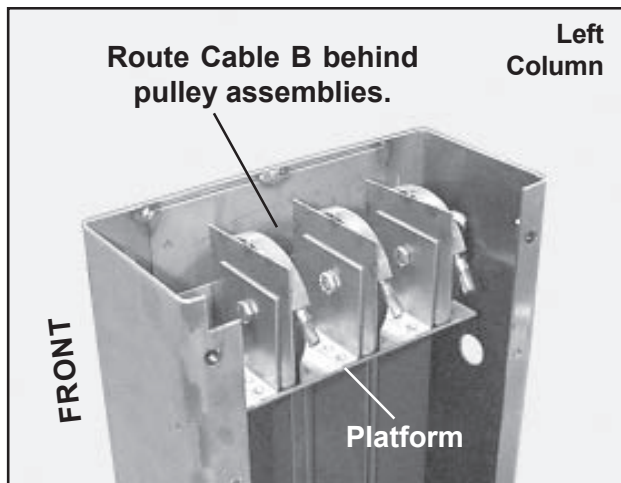
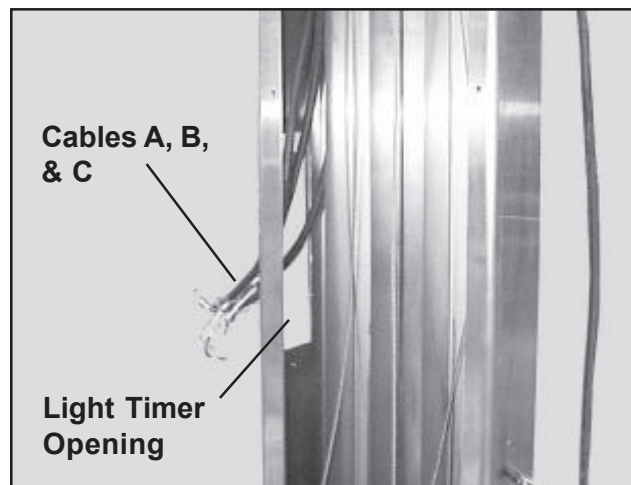

Figure 1. Top of Left Column Showing Pulley Assemblies
Figure 9. Cables A, B, & C in Light Timer Opening
1. In the left column, pass Cable B behind the pulleys on the platform on which the pulleys are mounted (Figure 1). The cable end with two bare wires and one loop connector must be toward the rear of the column. Both ends of the cable must hang inside the column.
5. Pass the cable behind the pulley assemblies (Figure 1) and down to and out the light timer opening (Figure 9). This cable will run alongside Cable B installed earlier.